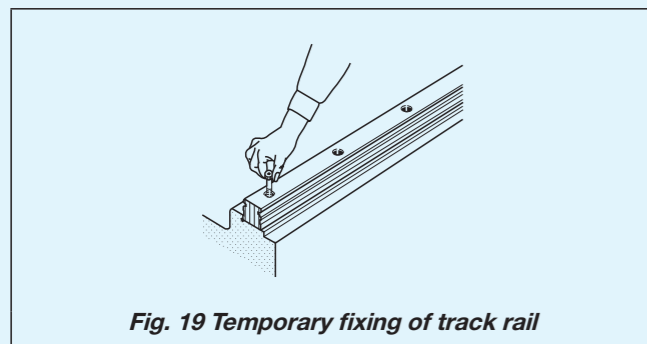

Fig. 19 Temporary fixing of track rail
- Align and temporarily fix them with reference mounting surface of each Linear Way track rail. (See Fig. 19) At this point, ensure that the fixing bolt does not interfere with the mounting hole.